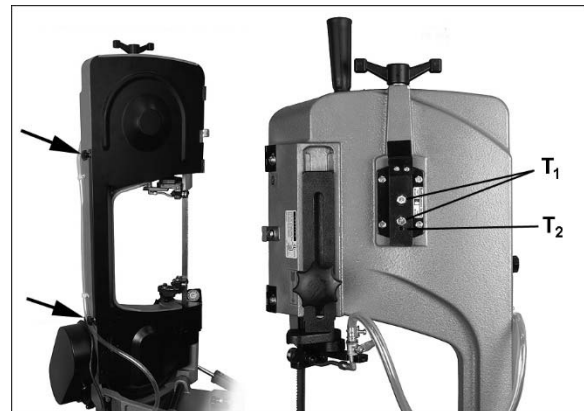

Figure 8-10: blade tracking adjustment
3. Open rear guard by removing two knobs (see Figure 8-10).
2. Open rear guard by removing 2 knobs (see Figure 8-10). Observe position of blade on wheel. If blade is not adjacent to wheel flange, first adjust blade tracking according to *sect. 8.9 Blade tracking*.
6. If blade is not tracking properly, loosen bolts (T_1 , Figure 8-10) with 12mm wrench.